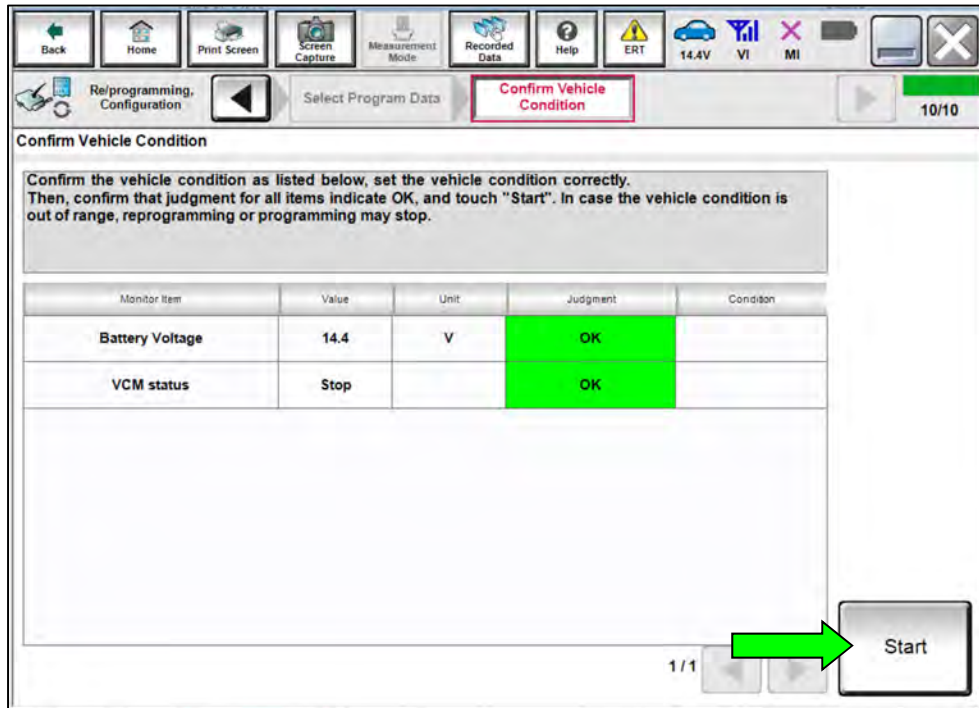

Figure 15
- If any of the items shown in Figure 15 display a status of NG, verify the battery maintainer/smart charger is turned ON and is securely connected to the 12V battery, and ensure the vehicle is NOT in Ready mode.